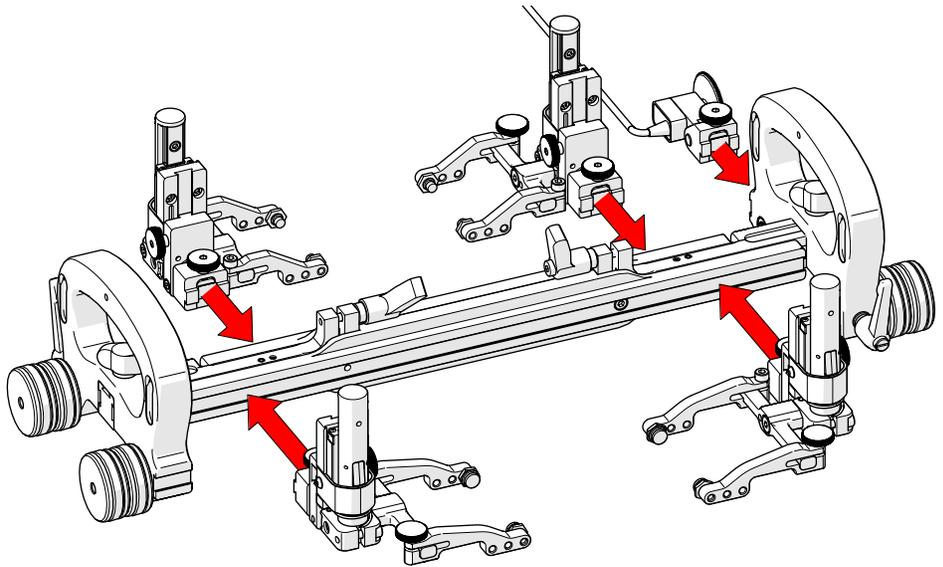

Fig. 96 - Mount probe holders and encoder
4. Assemble the appropriate configuration to the scanner body (Fig. 96).
5. Mount the spring-loaded encoder (see "Spring-Loaded Encoder" on page 13) to the wheel block with handle (Fig. 96). When possible, mount the spring-loaded encoder in a position that follows the scanner direction of travel. Mount the probe holders to the dual pivot frame bar (see "Probe Holder Setup" on page 14).